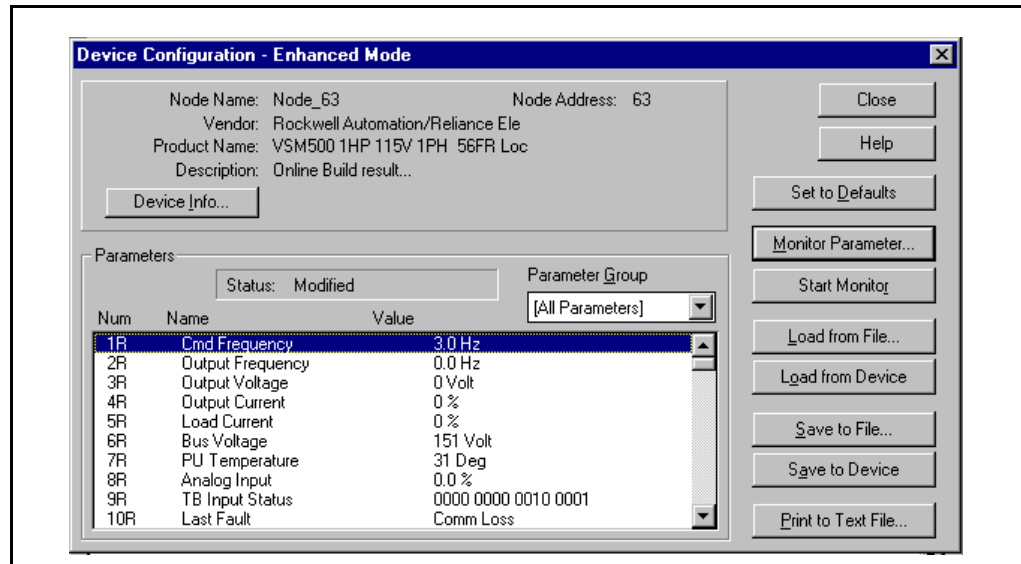

Figure 3.8 – Device Configuration - Enhanced Mode Dialog Box
Step 1. In the Device Configuration - Enhanced Mode dialog box (see figure 3.8), double-click **parameter 103 [NV MAC ID]**. The Device Configuration - Modify Numeric Parameter dialog box appears.
- Step 1. In the Device Configuration - Enhanced Mode dialog box (see figure 3.8), double-click **parameter 104 [NV BAUD RATE]**. The Device Configuration - Modify Enumerated Parameter dialog box appears.
Step 1. In the Device Configuration - Enhanced Mode dialog box (see figure 3.8), double-click **parameter 107 [OUTPUT ASSEMBLY]**. The Device Configuration - Modify Numeric Parameter dialog box appears.
Step 1. In the Device Configuration - Enhanced Mode dialog box (see figure 3.8), double-click **parameter 34 [START SOURCE]**. The Device Configuration - Modify Enumerated Parameter dialog box appears.
Step 1. In the Device Configuration - Enhanced Mode dialog box (see figure 3.8), double-click **parameter 36 [SPEED REF SOURCE]**. The Device Configuration - Modify Enumerated Parameter dialog box appears.
Step 1. In the Device Configuration - Enhanced Mode dialog box (see figure 3.8), double-click **parameter 109 [DNET FAULT MODE]**. The Device Configuration - Modify Boolean Parameter dialog box appears.
Step 1. In the Device Configuration - Enhanced Mode dialog box (see figure 3.8), double-click **parameter 110 [DNET IDLE MODE]**. The Device Configuration - Modify Boolean Parameter dialog box appears.
Step 1. In the Device Configuration - Enhanced Mode dialog box (see figure 3.8), double-click **parameter 112 [CHANGE OF STATE]**. The Device Configuration - Modify Bit Parameter dialog box appears.
Step 1. In the Device Configuration - Enhanced Mode dialog box (see figure 3.8), double-click **parameter 113 [RESET]**. The Device Configuration - Modify Enumerated Parameter dialog box appears.